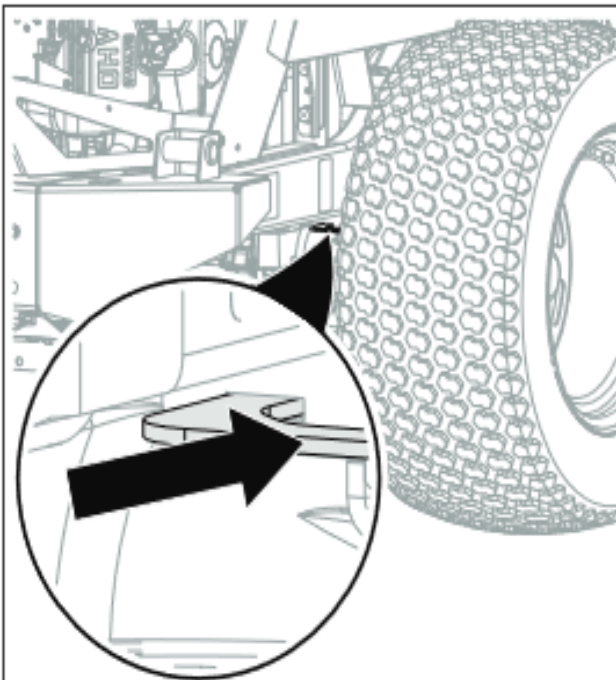

Figure 33
7. Return transaxle bypass levers to operating position. See *Figure 33*.